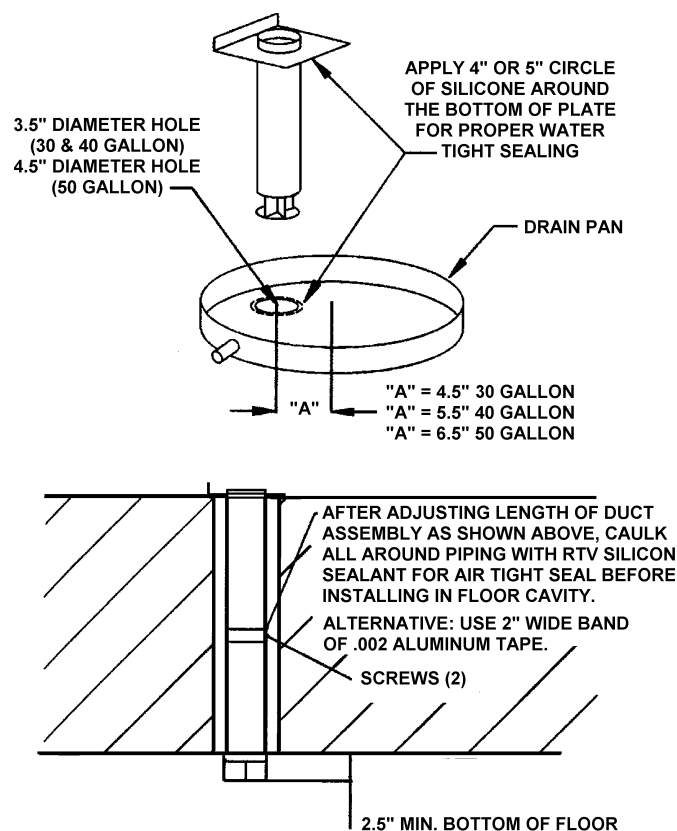

FIGURE 5.
1. To locate the position of the 3 1/2" or 4 1/2" hole to be cut in the floor, see Figures 5 and 6.